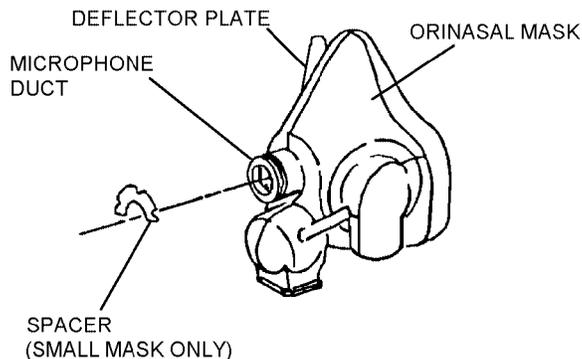

Figure 4-8. Orinasal Mask
**4-10. Orinasal Mask.** The orinasal mask (figure 4-8), is molded of soft silicone rubber and fits over the wearer's nose and mouth. The green colored orinasal mask incorporates a turned-under edge, increasing the seal around the wearer's face. The orinasal mask is mounted within the shaped faceplate. Located on the right side of the orinasal mask is an externally-mounted deflector plate constructed of Noryl plastic. This plate deflects the air across the faceplate, keeping the optical area mist-free. Other components located within the orinasal mask are the inhalation valve, compensated exhalation valve, microphone, and drink facility port. The orinasal mask is available in two sizes: Large (P - designation on inside of mask) and Small (Q - designation on inside of mask).